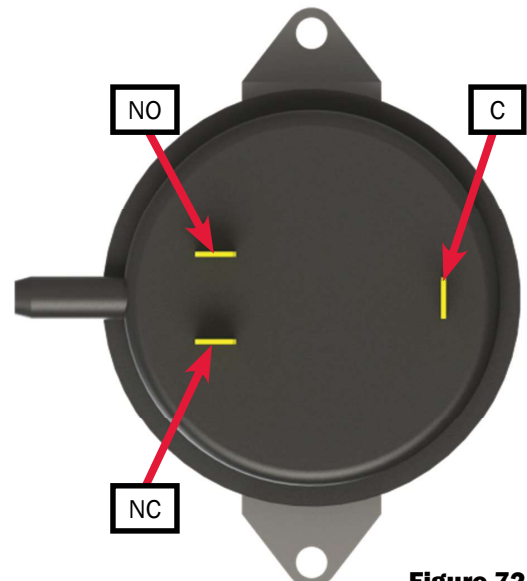

Figure 72
5. Using a digital multimeter, check the switch for continuity as described below. Reference Figure 72 for the exact pin locations.